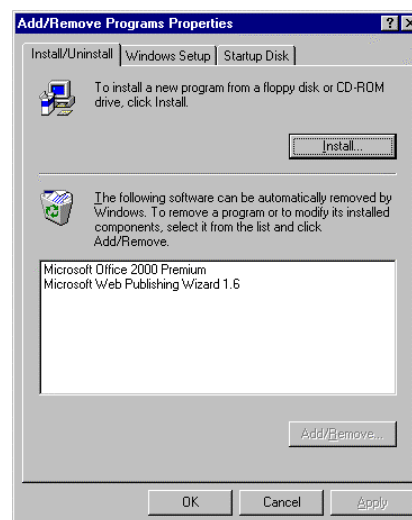

Fig. 1-2
- (2) In the Control Panel window, double-click the Add/Remove Programs icon. The Add/Remove Programs dialog box will then appear as shown in Fig. 1-2. In this dialog box, click **Install**.